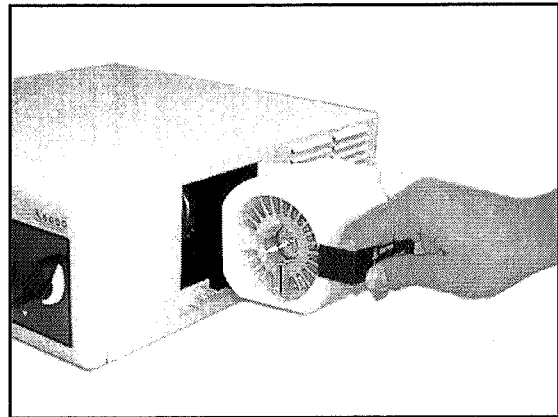

Figure 6
- c. Grasp the lamp module by the handle and remove the lamp (see figure 6).